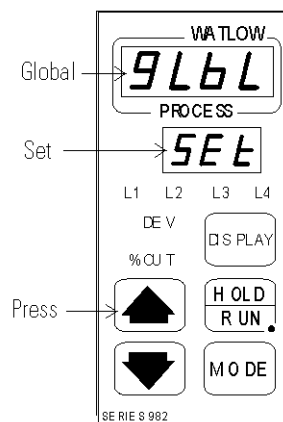

Figure 4-5. Global and Set Appear
2. Press the Up Arrow until “gLbL” (global) appears in the upper display. The word “set” will remain in the lower display (Figure 4-5).